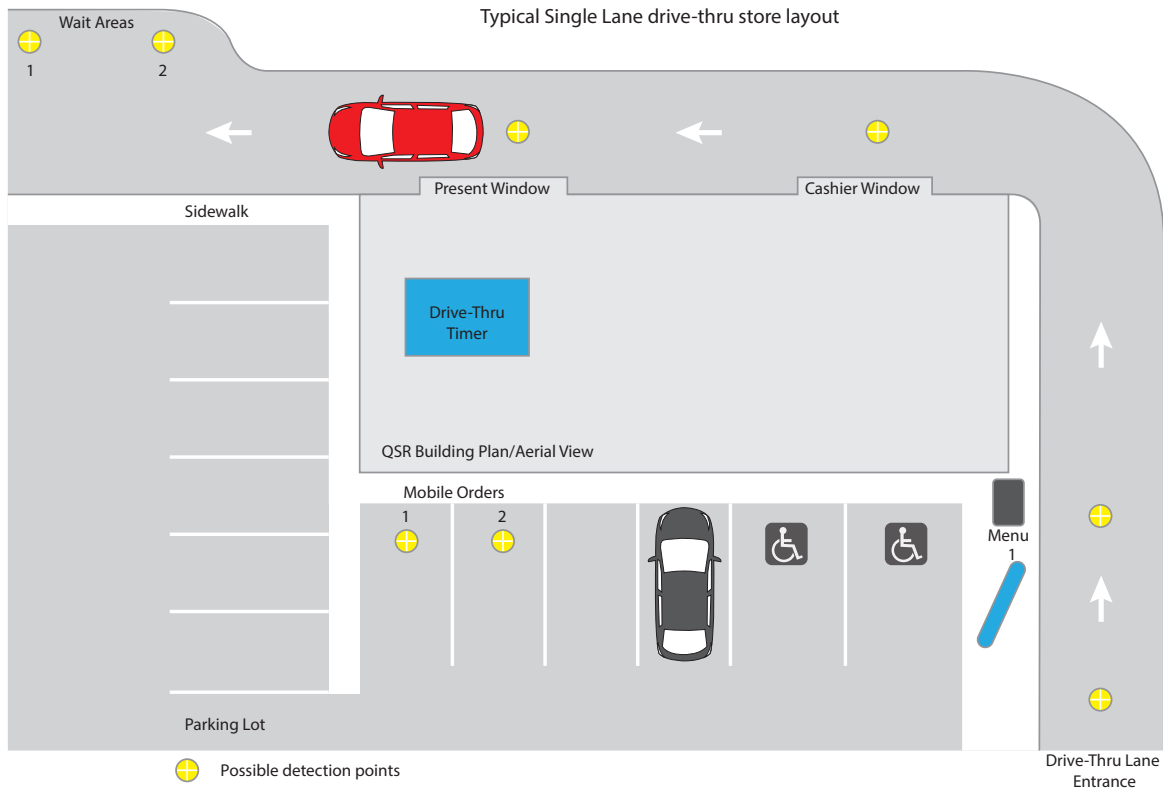

Fig. 1.4
- Mobile Order/Wait Areas: vehicle detection is off to the side of a lane, or in a reserved parking spot designated by the restaurant/store. Fig. 1.4 shows two Wait Areas and two Mobile Order spots.
Figures 1.4, 1.5, 1.6, and 1.7 illustrate examples of typical drive-thru layouts. Detection points (indicated by the circular yellow markers) can be installed at various strategic locations. You can label each detection point on your Dashboard. Commonly used examples are: Arrival, Greet, Menu, Order, Cashier, Pay, Present, Service, Mobile Order, Wait Area.